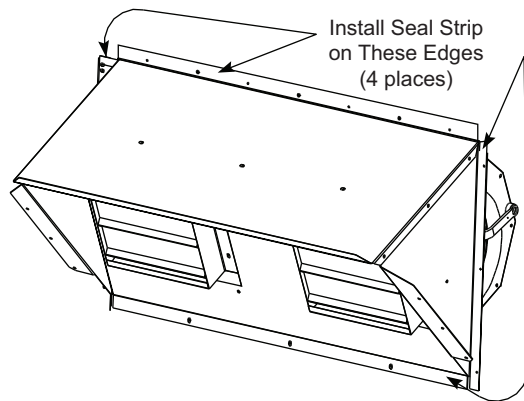

Fig. 10 — Hood Assembly
2. Position the barometric relief assembly at return air section of unit. Add seal strip to the edges of the hood assembly. See Fig. 10 for seal strip locations. The long piece of seal strip is for the top and bottom. The short piece is for the two sides.